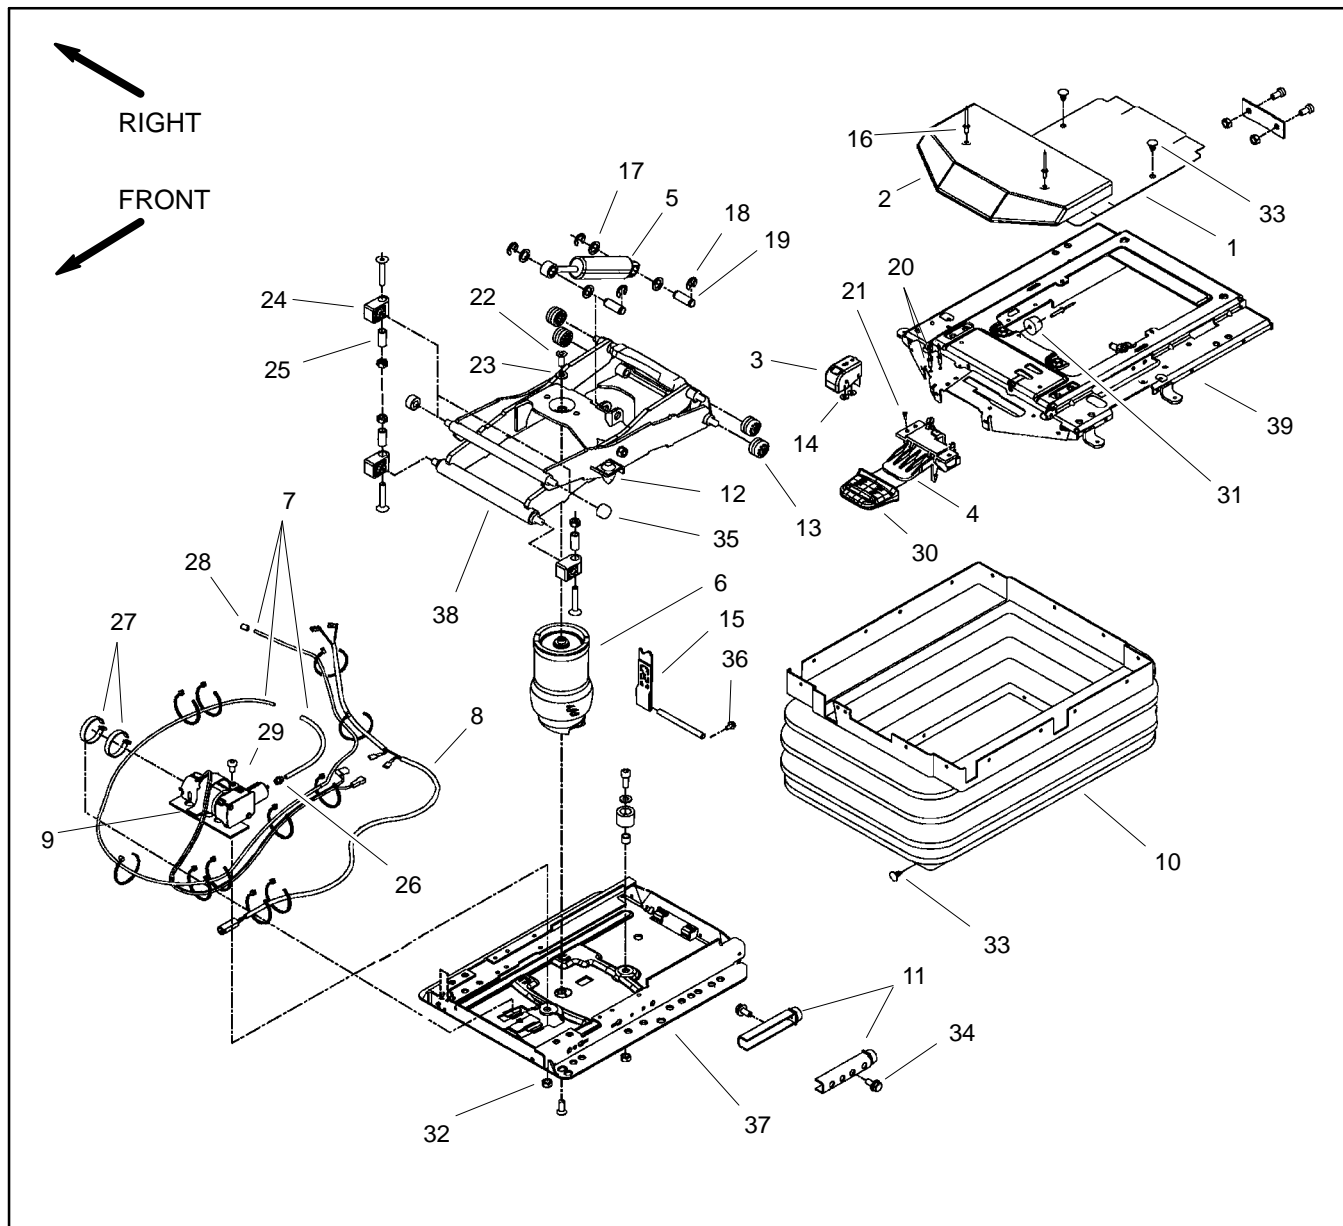
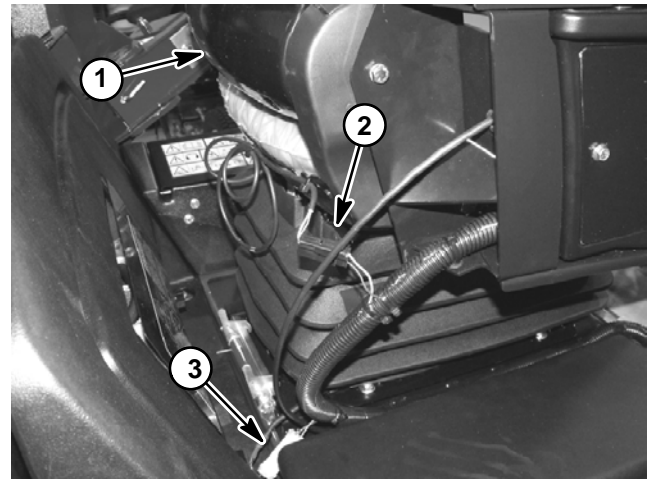
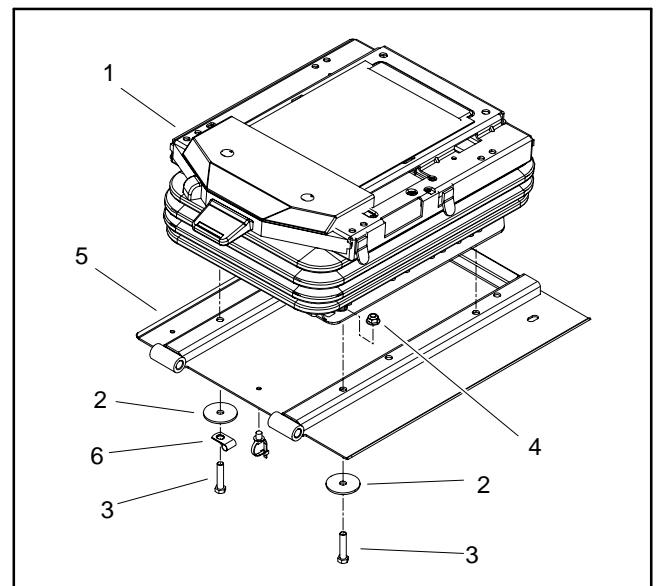

Figure 20
Figure 21
Figure 22
### Disassembly (Fig. 20)
2. Disconnect seat suspension connector from machine wire harness (Fig. 21).
3. If the air spring assembly (item 6) or base plate (item 37) requires removal, remove seat suspension from seat plate (Fig. 22):
B. Remove four (4) cap screws, flat washers and flange nuts that secure seat suspension to seat plate.
4. Remove seat suspension components as needed using Figure 20 as a guide.
### Assembly (Fig. 20)
1. Install all removed seat suspension components using Figure 20 as a guide.
2. If seat suspension was removed from seat plate, secure suspension to seat plate (Fig. 22):
B. Secure seat suspension to seat plate with four (4) cap screws, flat washers and flange nuts.
4. Make sure that seat electrical connectors are connected to machine wire harness (Fig. 21).